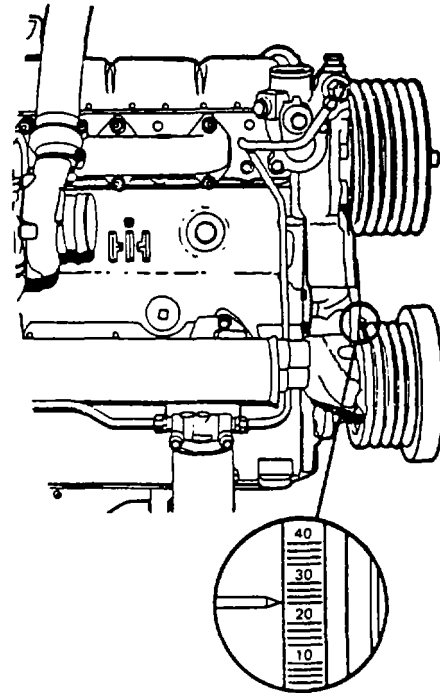

Figure 21. Static Pump to Engine Timing
3. Observe engine front cover timing pointer and crankshaft pulley degree alignment (Figure 21).